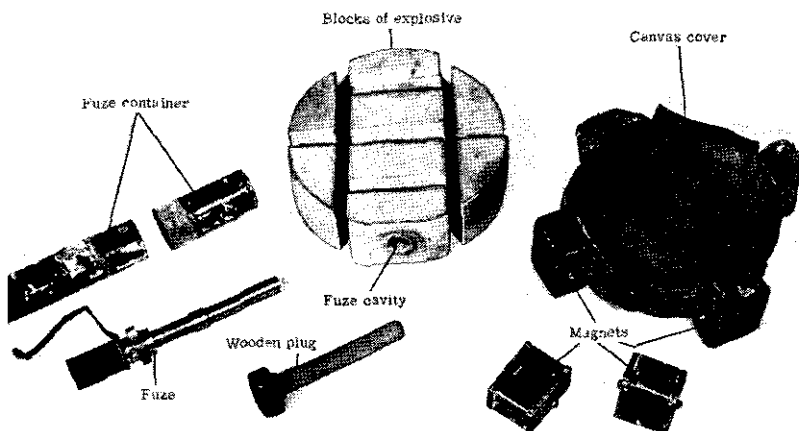

Figure 41.—Model 99 (1939) armor-piercing mine disassembled.
(2) *To arm.*—With the fuze inserted in the cavity (fig. 41), the Model 99 armor-piercing mine should be placed by hand in direct contact with any steel or iron part of the objective after the safety pin